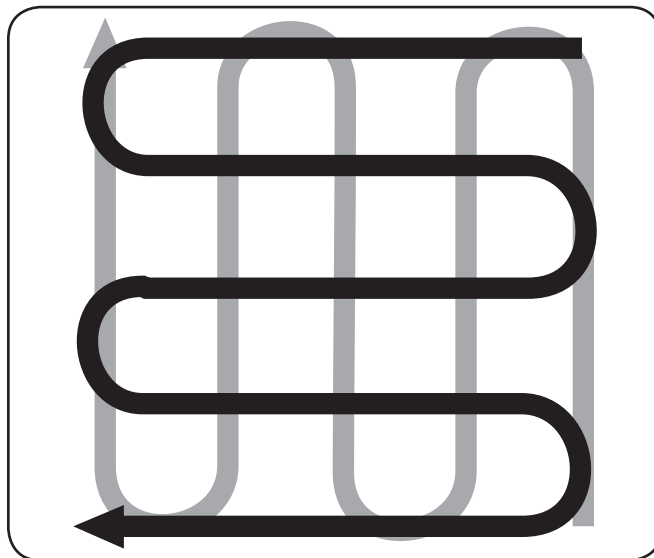

Figure 5-8
- When finished in one direction, make a second pass at a right angle, as shown in Figure 5-8. Overlap each pass for the best results.